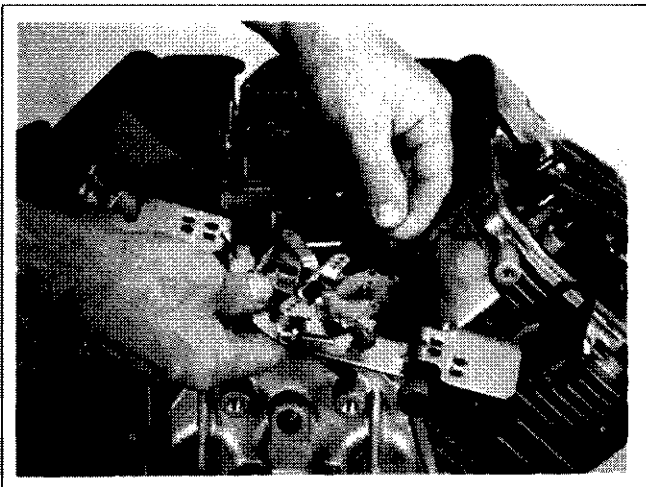

Figure 9-19. Removing Governor Lever from Cross Shaft.
1. Loosen the hex. flange nut and remove governor lever from the cross shaft. See Figure 9-19. Leave lever attached to the throttle linkage and lay it on the top of the crankcase.